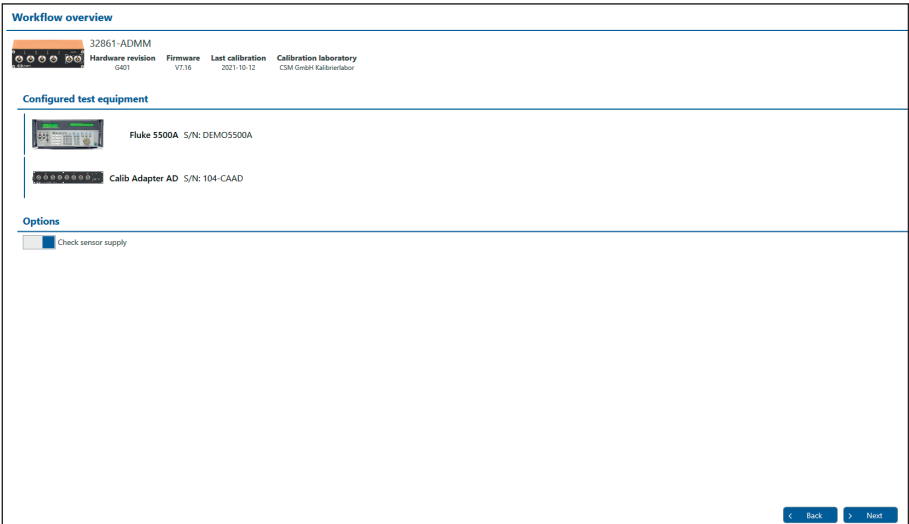

Fig. 2-11: **Workflow overview** window
- ☞ Check the details displayed in the sections **Workflow overview**, then click **Next** (Fig. 2-11).
To check the sensor supply of the relevant AD/HV AD modules, the option for checking the sensor supply has to be enabled both in the **Workflow overview** (Fig. 2-11) and in the **Calibration setup** menu.